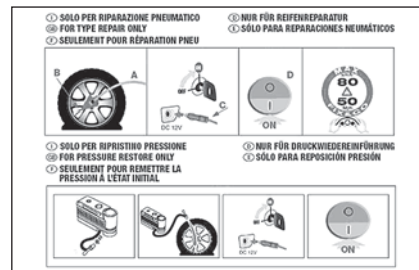

fig. 2
- instruction brochure (see **fig. 2**), to be used for prompt and proper use of the quick repair kit and to be then handed to the personnel charged with handling the treated tyre;